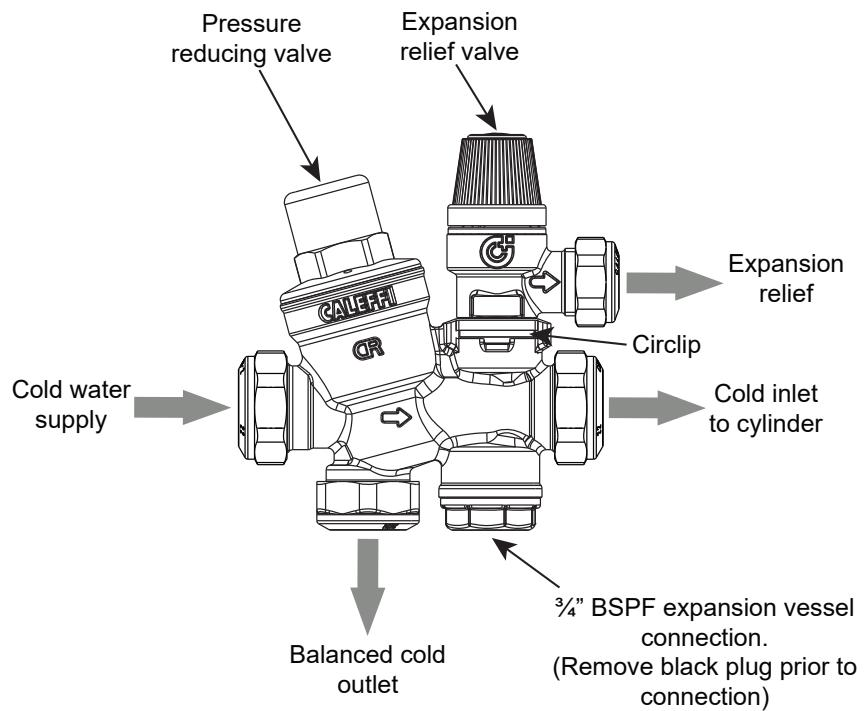

Figure 4-1: Cold water inlet manifold
A balanced cold water connection is provided on the inlet manifold. Refer to Figure 4-1. This should only be used to provide balanced cold supplies to shower valves and mixer taps. If the balanced cold water outlet is not required, blank off this port.
3. Once the pipework is flushed connect the cold supply to the Inlet manifold. Refer to Figure 2-1 for location and Figure 4-1 for a detailed drawing of the manifold. A service valve (not supplied) must be fitted in the cold supply to the cylinder before this connection is made.
6. Connect the expansion vessel directly to the  $\frac{3}{4}$ " BSPF connection in the inlet valve manifold body, after removing the black plastic plug (see Figure 2-1 for location and Figure 4-1 for a detailed drawing of the manifold). Refer to Section 4.4 for more information on fitting the expansion vessel.
The preferred method of connection is to hard pipe the expansion vessel directly to the  $\frac{3}{4}$ " BSPF connection in the inlet valve manifold body using 22mm diameter pipe. Refer to Figure 4-1.
1. Remove the black plastic plug from the inlet manifold body (refer to Figure 4-1).